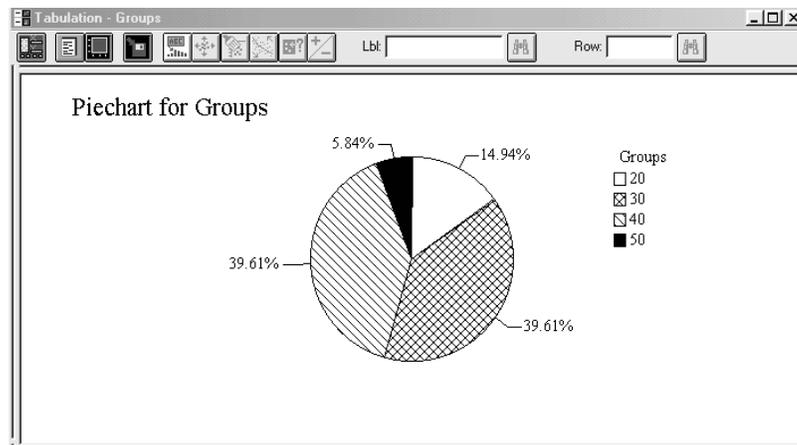

Figure 4-10. Piechart with Four Groups within New Ranges
8. Click the Piechart option on the Graphical Options dialog box; then click OK to display the Barchart (see Figure 4-10). Notice that the data have been plotted into four groups within the new ranges.